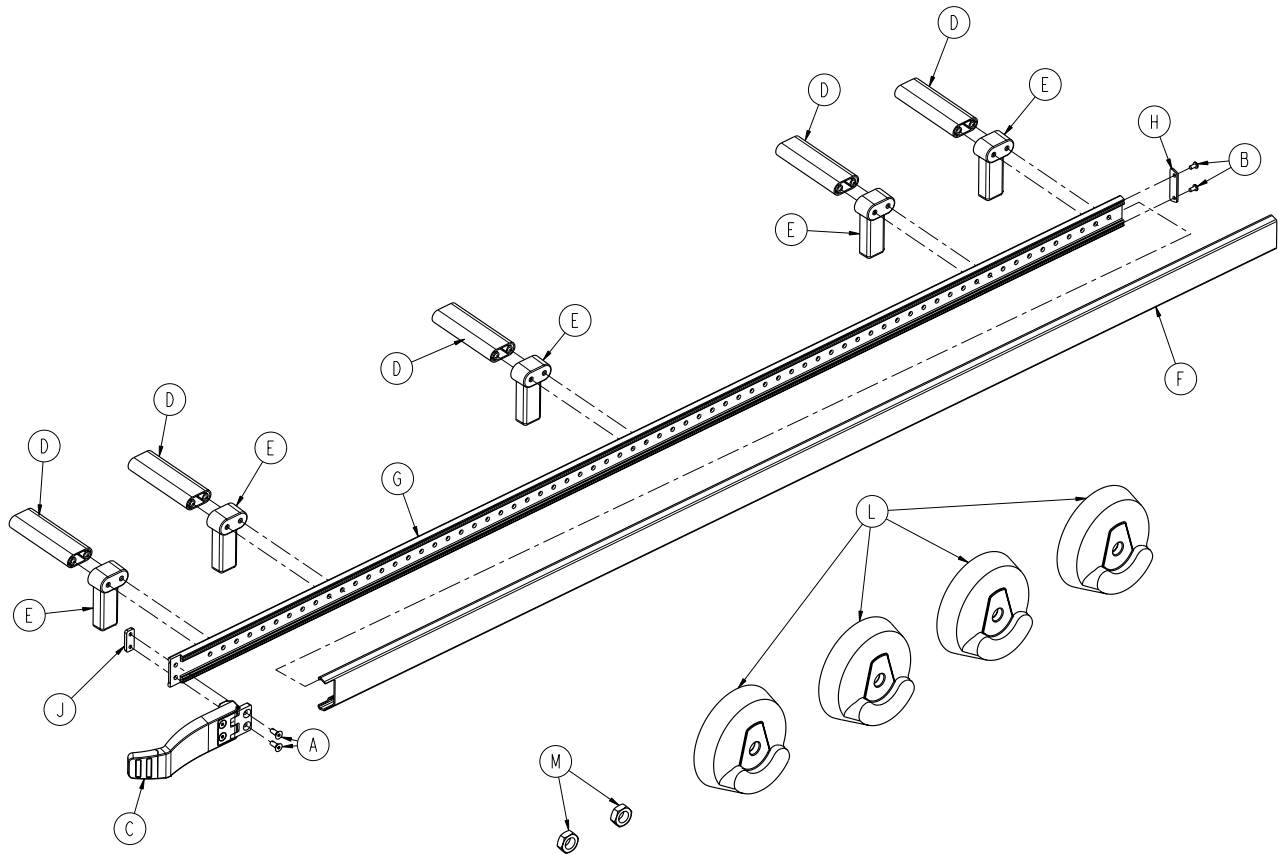

Figure 29: Optional Wheel Guide Kit Components - 6390-027-000
- Using a pencil, mark each of the holes in the five areas where a wheel guide support (E) will be located on the wall (cabinet) (Figure 29).
14. Slide the wheel guide rail bumper (6390-001-175) (F) over the wheel guide rail from the foot end of the vehicle patient compartment to the head end.
15. Using a 5/32" hex wrench, install the two flat head cap screws (0001-195-000) (A) through the wheel guide assembly (6390-001-017) (C) hinge and the wheel guide rail to the wheel guide nut (6390-001-191) (J) as shown in "Figure 29: Optional Wheel Guide Kit Components - 6390-027-000" on page 41.
16. Install the two toplock locknuts (0016-060-000) (M) and four wheel covers (6390-001-206) (L) to the patient right side of the cot that is to be used with the wheel guide assembly. See "Installing Cot Wheel Covers" on page 43.